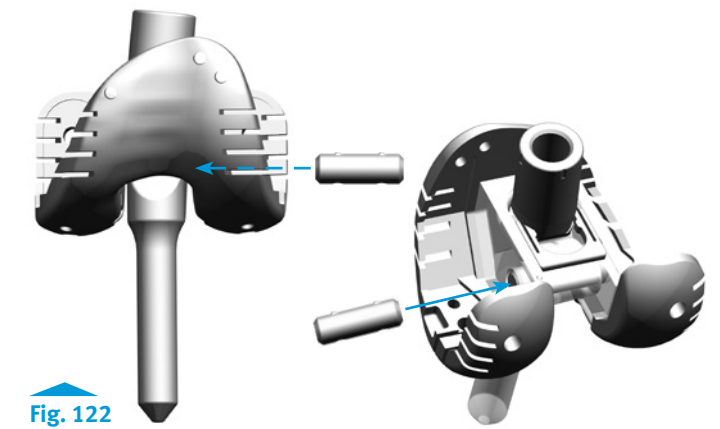

Fig. 122
- To secure the Segmental/RH Knee Hinge Post Provisional to the NexGen RH Knee Femoral Provisional/Cutting Guide, cross-pin with the Segmental RH Knee Hinge Pin Provisional (Fig. 122)